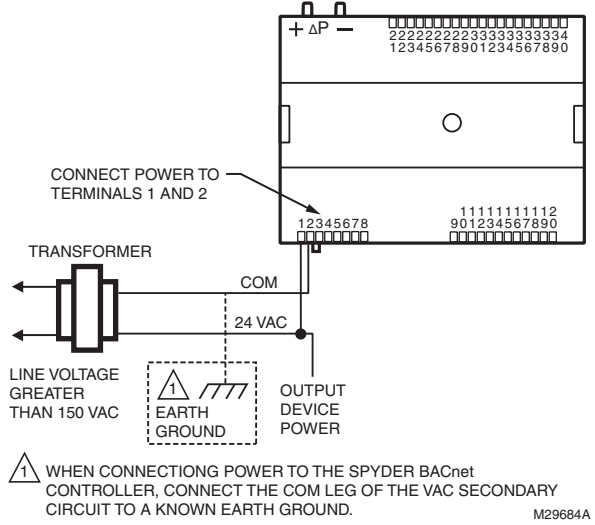
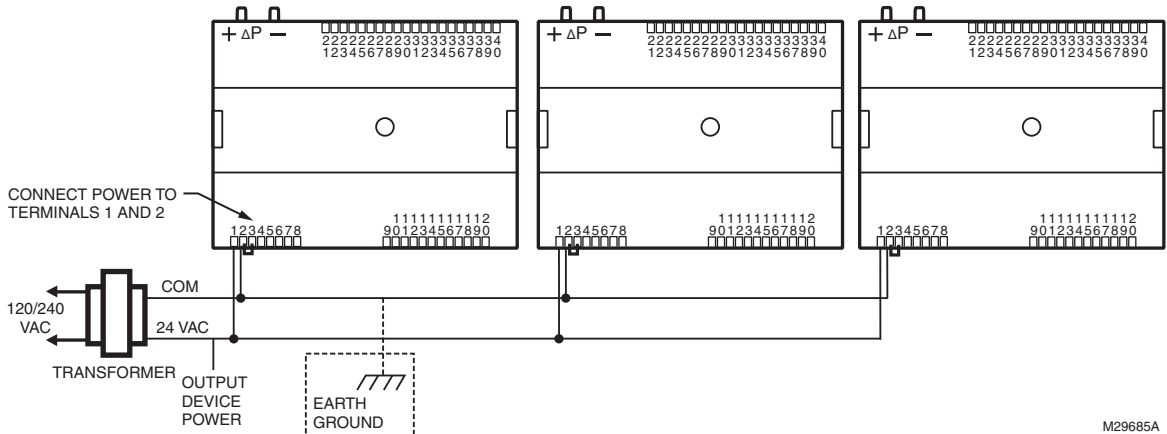

Fig. 11. Power wiring details for one controller per transformer.
Fig. 12. Power wiring details for two or more controllers per transformer.
- When multiple controllers operate from a single transformer, connect the same side of the transformer secondary to the same power input terminal in each device. The earth ground terminal (terminal 3) must be connected to a verified earth ground for each controller in the group (see Fig. 12 on page 9).
See Fig. 11–Fig. 12 beginning on page 9 for illustrations of controller power wiring. See Table 4 for VA ratings of various devices.
- For multiple controllers operating from a single transformer, the same side of the transformer secondary must be connected to the same power input terminal in each device. The earth ground terminal must be connected to a verified earth ground for each controller in the group (see Fig. 12 on page 9). Controller configurations are not necessarily limited to three devices, but the total power draw, including accessories, cannot exceed 100 VA when powered by the same transformer (U.S. only).
- See Fig. 11 on page 9 for controller power wiring used in UL 1995 equipment (U.S. only).
- Keep the earth ground connection wire run as short as possible (refer to Fig. 11–Fig. 12 beginning on page 9).
- Do not connect earth ground to the controller's digital or analog ground terminals (refer to Fig. 11 and Fig. 12).
on page 6. The earth ground terminal (terminal 3) must be connected to a verified earth ground for each controller in the group (see Fig. 12 on page 9).
Fig. 11 depicts a single controller using one transformer.
Connect terminal 2, (the 24 Vac common [24 VAC COM] terminal) to earth ground (see Fig. 11).
More than one controller can be powered by a single transformer. Fig. 12 shows power wiring details for multiple controllers.